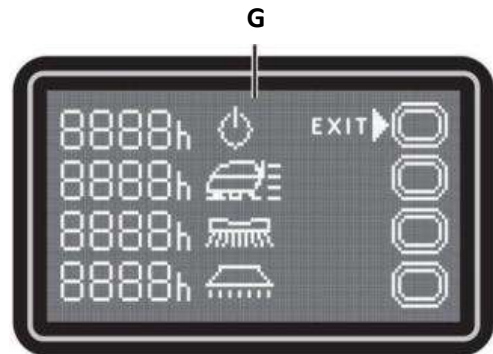

Figure 9
**Operating Time Counter Screen (G, Fig. 9)**